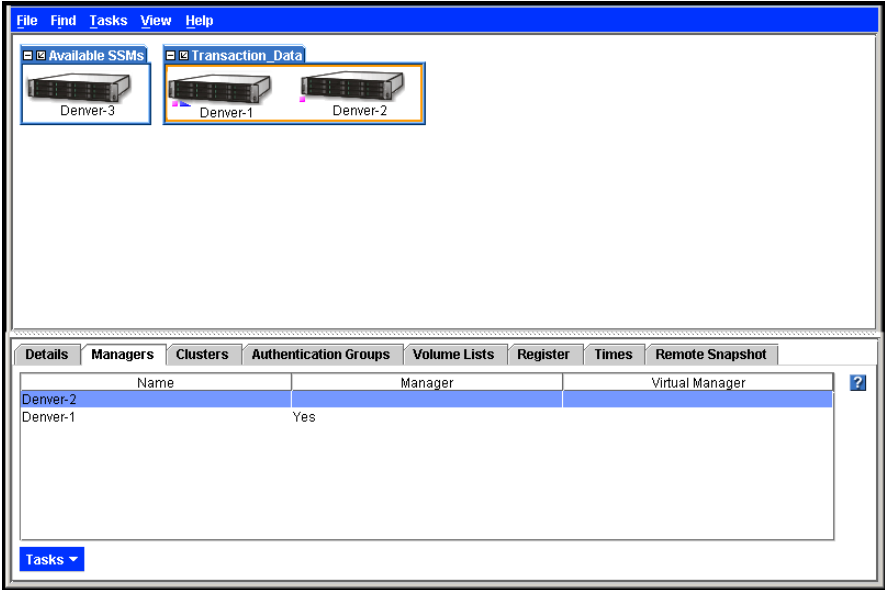

Figure 138. Starting a Manager
2. Click the Managers tab in the Tab View. The Managers tab displays, shown in Figure 138.